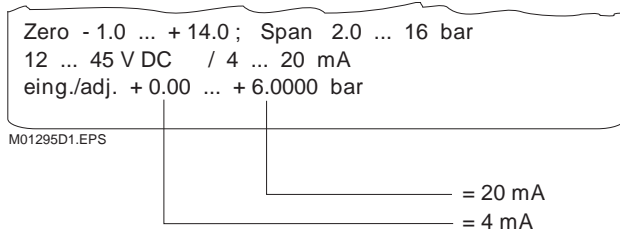

Fig. 15. Type plate (section)
- the transmitter is to be set to a different measuring span or a different lower range value from that given on the calibration label (Fig. 15).